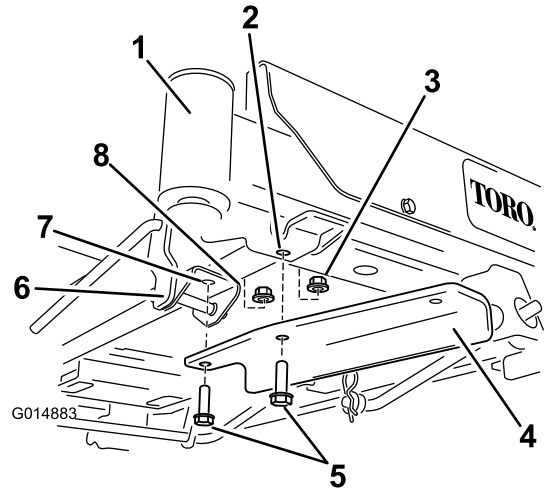

Figure 7
- For machines with a foot assist lift pedal, Remove the forward fasteners in the foot assist lift pedal bracket and secure the bracket using 2 bolts and 2 locknuts (Figure 7).